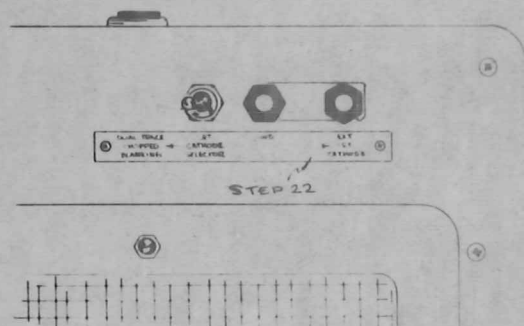

Fig. 6
- () b. Drill two #43 holes and mount the tag with the #4 x 1/4 thread-forming screws from the kit (see Fig. 6).